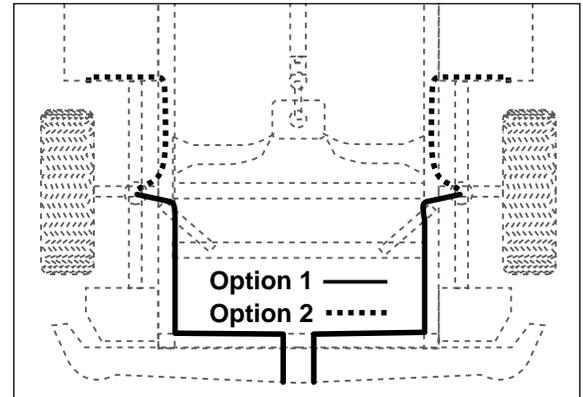

Figure 12
6. Route the air line along the frame to the air fitting on the air spring (Figure 12). Keep at least 6" of clearance between the air line and heat sources, such as the exhaust pipes, muffler, or catalytic converter. Avoid sharp bends and edges. Use the plastic tie straps (BB) to secure the air line to fixed, non-moving points along the chassis. Be sure that the tie straps are tight, but do not pinch the air line. Leave at least 2" of slack to allow for any movement that might pull on the air line.
7. On both sides, place the provided thermal sleeve (M) on the air line near the exhaust.